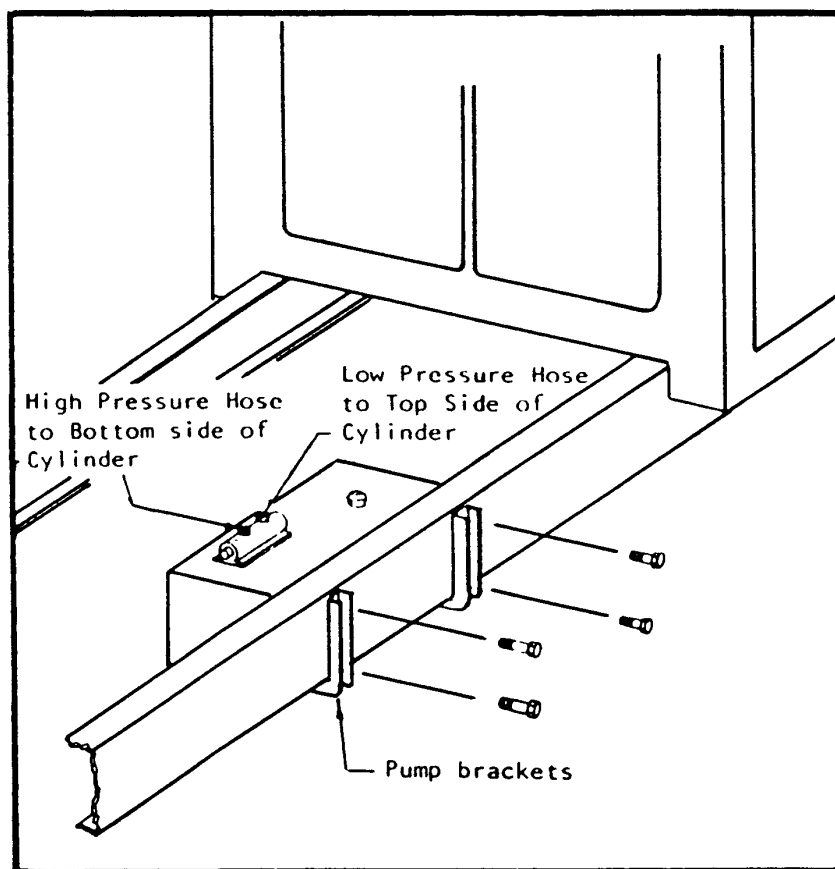
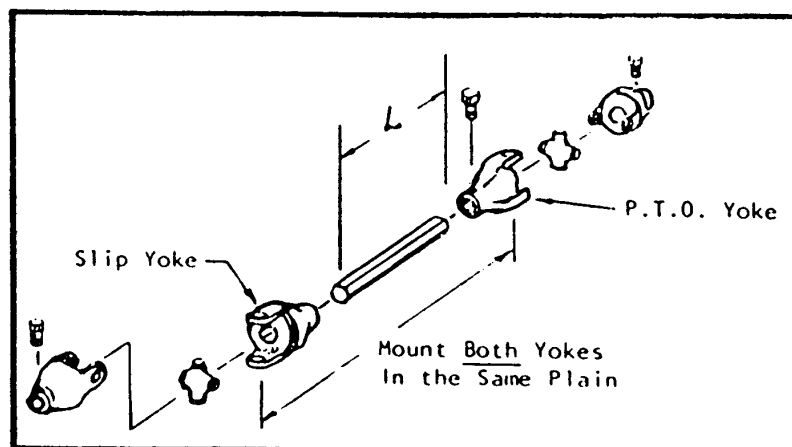

FIGURE 4 - PUMP INSTALLATION
FIGURE 5 - DRIVE SHAFT ASSEMBLY
- 1.a. See Fig.4 , position and bolt each pump bracket to the pump and secure with the  $\frac{3}{8}$  x  $1\frac{1}{4}$ " bolts and hex nuts.
- c. Two (2)  $\frac{17}{32}$ " Dia. holes need to be drilled in the pump brackets and truck frame (see Fig.4 ). Mark the hole locations as close to the truck frame flanges as possible. Drill  $\frac{17}{32}$ " Dia. holes and install the  $\frac{1}{2}$  x  $1\frac{1}{2}$ " hex head cap screws with lockwashers and hex nuts.
- b. Determine the exact length "L" of the drive shaft (see Fig. 5 ). The drive shaft should be kept as short and level as possible.
- d. The two (2) supplied U-joints are not identical, the U-joint with the 1" round x 7/8" hex slip is to go on the pump drive shaft and the 7/8" round x 7/8" hex U-joint (not furnished) or other size - is to go on the truck P.T.O.
- f. Assemble each U-joint to the hex drive shaft and install the drive shaft assembly. After installing, secure P.T.O. U-joint to the drive shaft using 3/8" x 5/8" drilled hex head set screw (furnished). Safety wire all (3) screws to insure that they do not come loose.
3. Hose Connections - (See Fig.4, See 416138 for split pump)